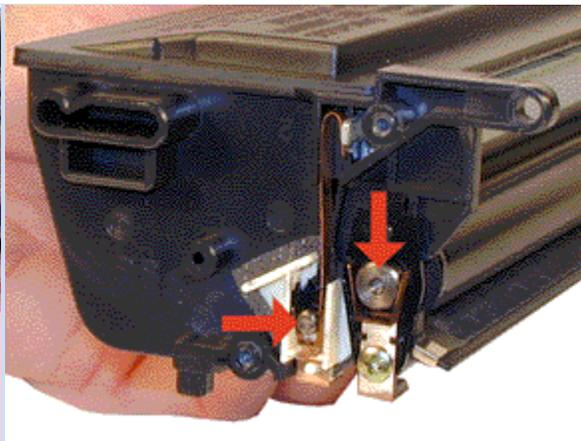

FIGURE 41
33. Clean and replace the conductive grease on the developer roller and the feed roller shafts. See Figure 41